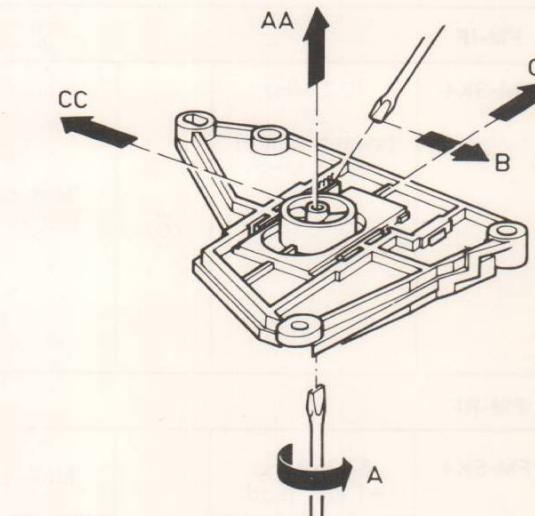

Fig. 2
- When the tape at the capstan moves upwards or downwards, adjust the capstan to be perpendicular by means of B on the flywheel pivot bearing (Fig. 2).
Adjust by turning A (Fig. 2).